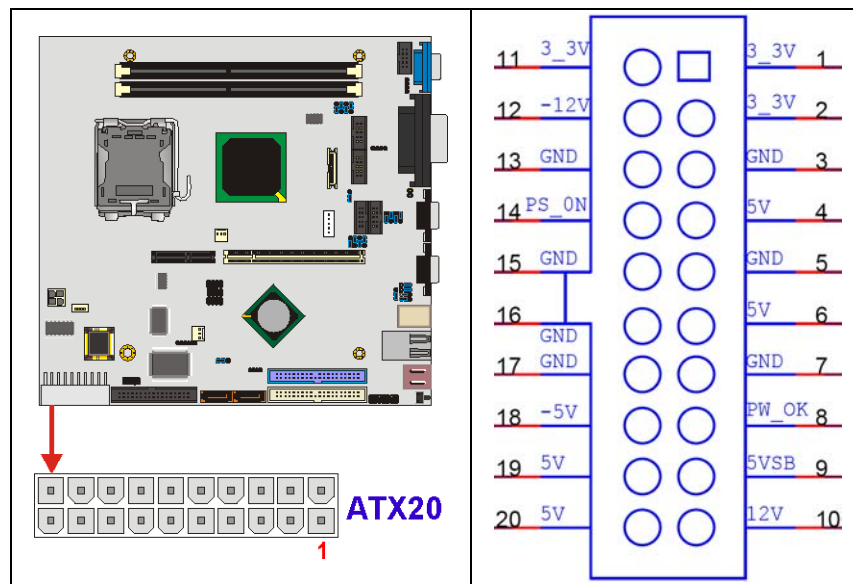

Figure 3-4: ATX Power Connector Location
- CN Location:** See Figure 3-4